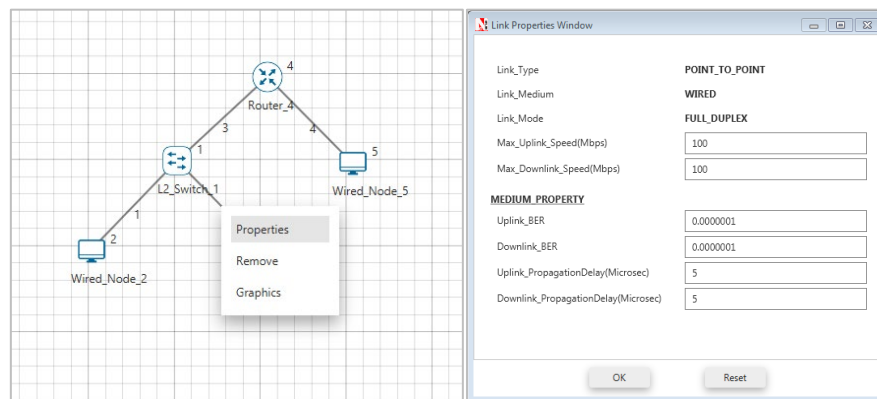

Figure 3-21: Wired Link properties window for links
Step 2: To configure the links, right click on any Link and select Properties as shown Figure 3-21.